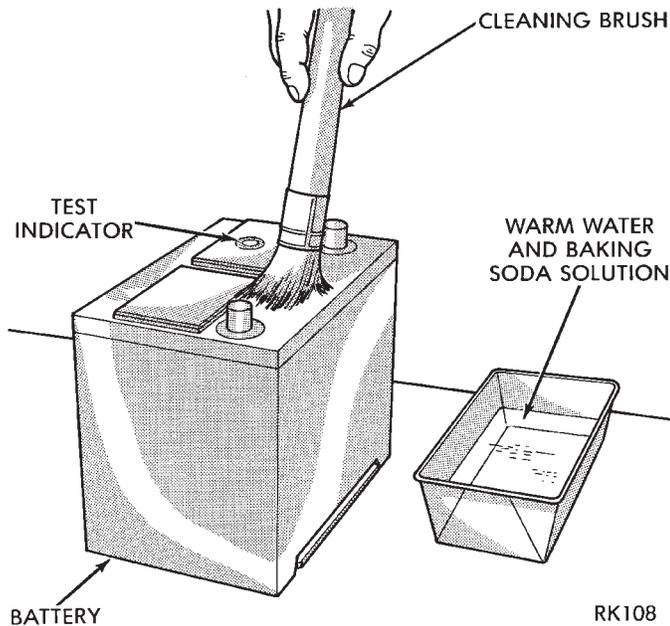

Fig. 4 Cleaning Battery
(4) Remove battery holddown nut and clamp.
(5) Remove the battery from vehicle.
(6) Clean top of battery with a solution of warm water and baking soda. Apply solution with a bristle brush and allow to soak until acid deposits loosen (Fig. 4). Rinse with clear water and blot dry with paper toweling. Dispose of toweling in a safe manner. Refer to the WARNINGS on the top of battery.